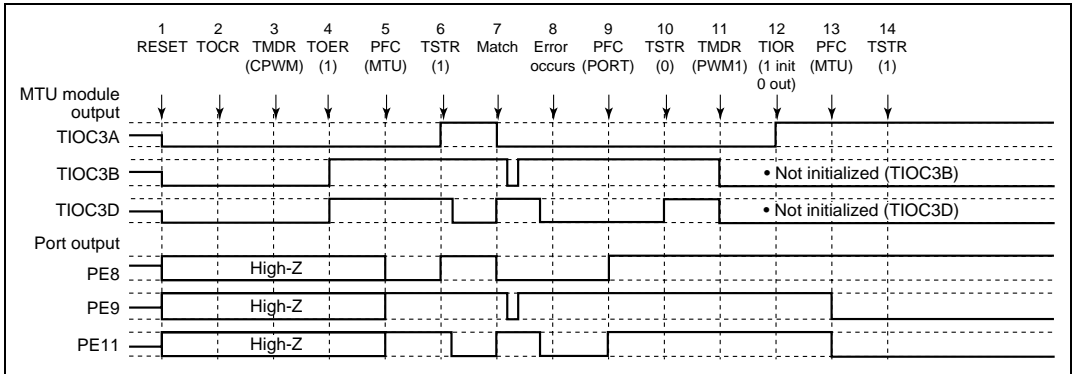

Figure 10.106 Error Occurrence in Complementary PWM Mode, Recovery in PWM Mode 1
(22) Operation when Error Occurs during Complementary PWM Mode Operation, and Operation is Restarted in PWM Mode 1: Figure 10.106 shows an explanatory diagram of the case where an error occurs in complementary PWM mode and operation is restarted in PWM mode 1 after re-setting.